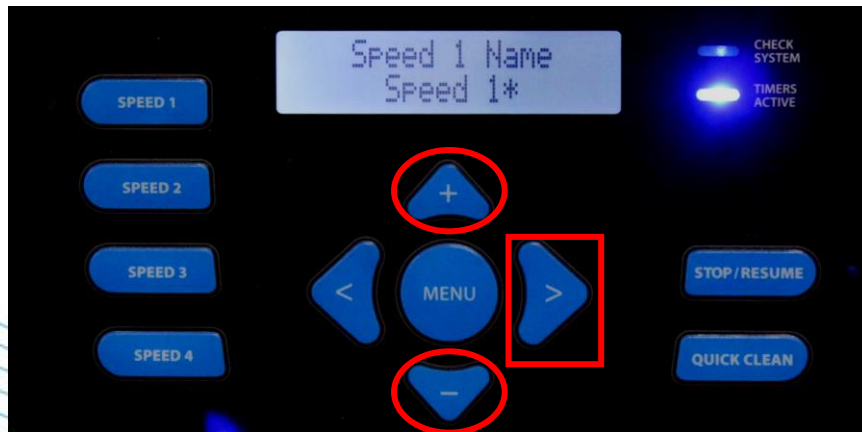

Figure 50
2. Pressing the  &  buttons allows you to select a variety of names to apply to this Speed button (fig 50). Press the  button to continue.